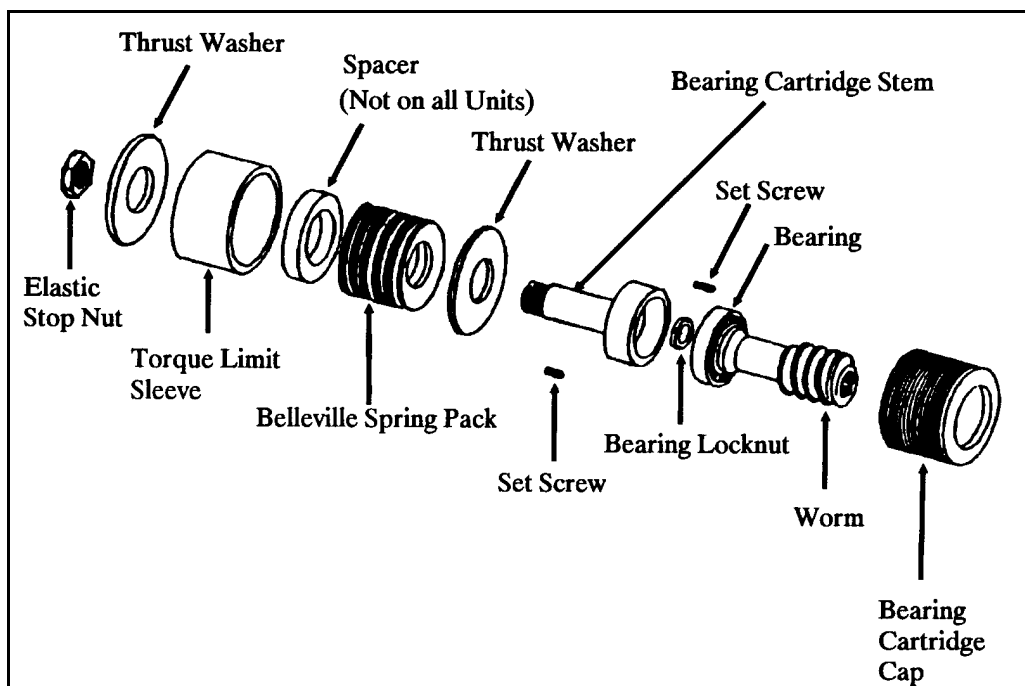

Figure 6-17 Worm Spring Pack Assembly
19. Worm/Spring Pack Disassembly and Inspection Refer to Figure 6-17
20. Worm Disassembly/Reassembly Refer to Figure 6-17